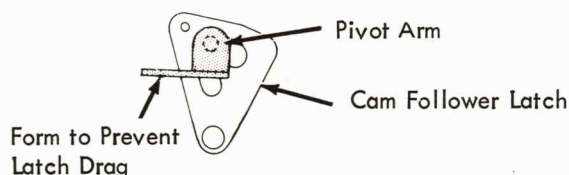

FIGURE 202. Pivot Arm
4. Pivot Arm (Fig. 202) - With the manual ribbon lift lever in the black position, form the pivot arm extension (up or down) so that the latch does not drag when moved from the latched to the unlatched position.